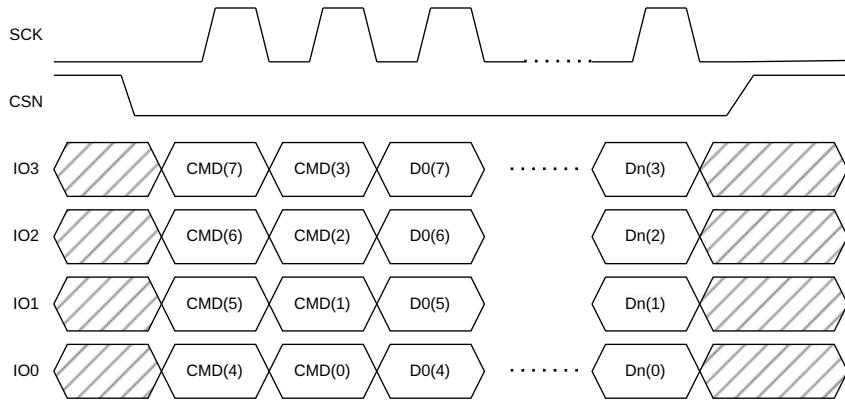

Figure 1.9: QSPI transaction.
The QSPI uses the same mechanism that offer SPI but instead of using **MISO / MOSI**, the QSPI uses all four (4) bits for data transmission (**IO3,IO2,IO1,IO0**) see Figure 1.9. The devices changes IO direction, on the data bytes, depending if a read operation transaction is issued.